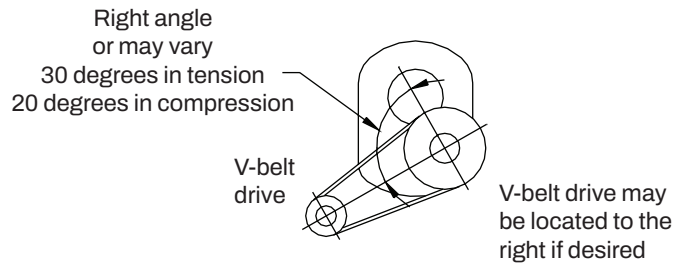

Figure 3 - Angle of V-Belt Drive
4. If not using a Dodge Torque-Arm motor mount, install motor and V-belt drive so belt will approximately be at right angles to the centerline between driven and input shaft (see Figure 3). This will permit tightening the V-belt with the Torque-Arm.